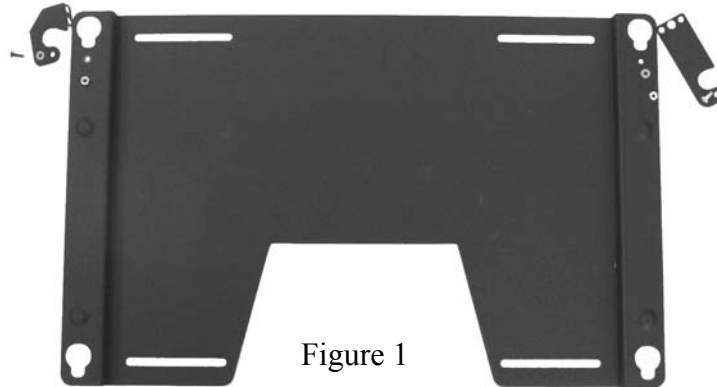

Figure 1
(2) 10-24 Nylock Nut
**BEFORE PROCEEDING:** Unpack the carton, verify contents shown in Figure 1 and read installation instructions completely. If you are missing any of the listed components, please contact Customer Service at 1-800-582-6480 or 952-582-6480.